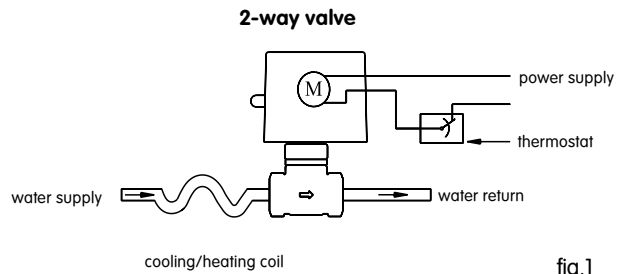

fig.1
**2-way valves normally closed:** the flow direction is shown in figure (the valve closes against the flow of the water, fig.1).